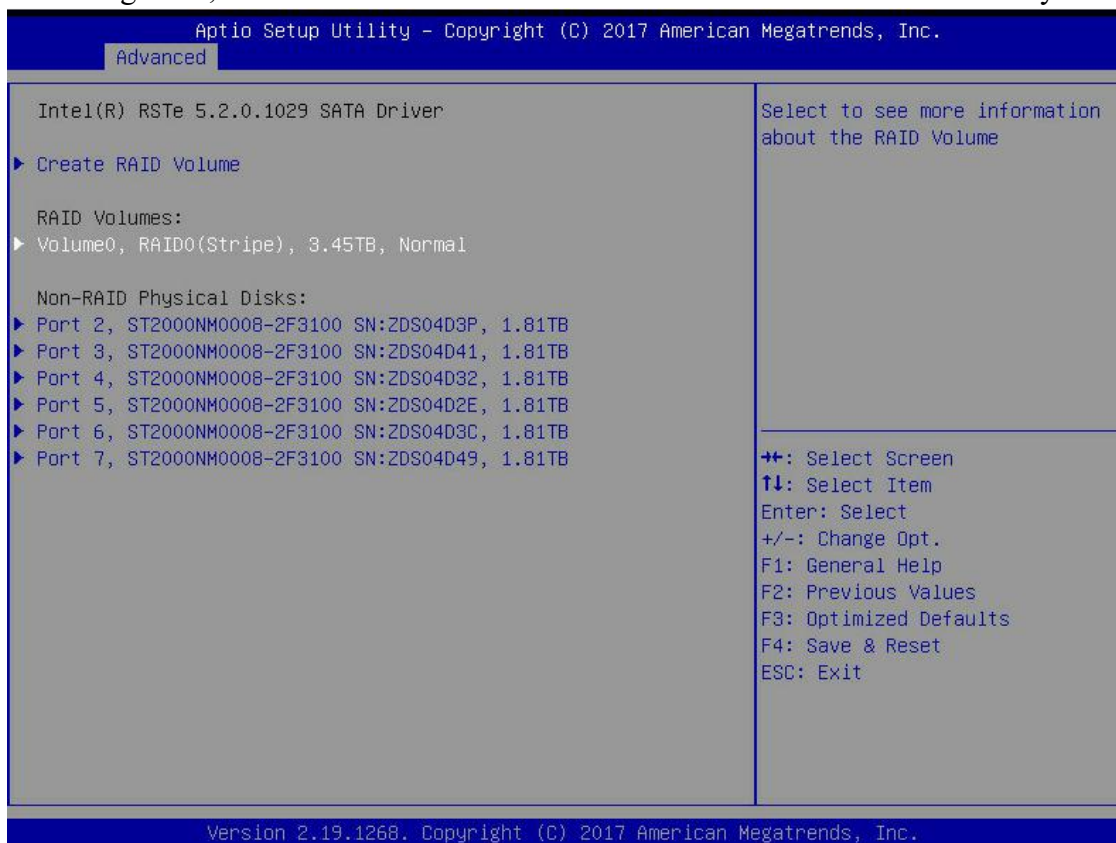

Fig. 6.11
- As shown in Fig. 6.11, select the RAID to be deleted under the RAID volumes directory and press enter.